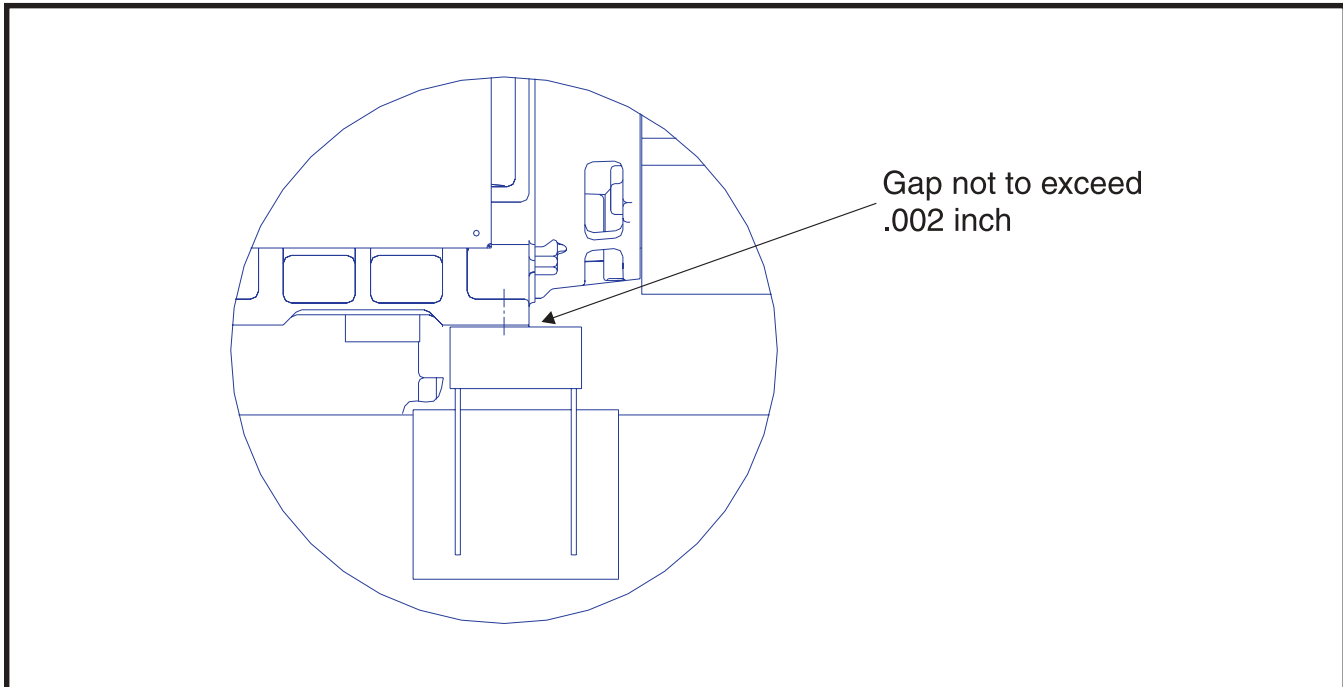

Figure 3. Shim motor feet to less than .002 inch gap.
9. While the motor is still supported, shim the motor feet to less than .002 inch gap between each motor foot and the support base. Then, bolt the motor to the mounting base and torque the motor mounting bolts to 250 ft-lb. Reference Figure 3.
7. While the assembly is still supported, shim the motor feet to less than .002 inch gap between each motor foot and the support base. Then, bolt the motor to the mounting base and torque the motor mounting bolts to 250 ft-lb. Reference Figure 3.